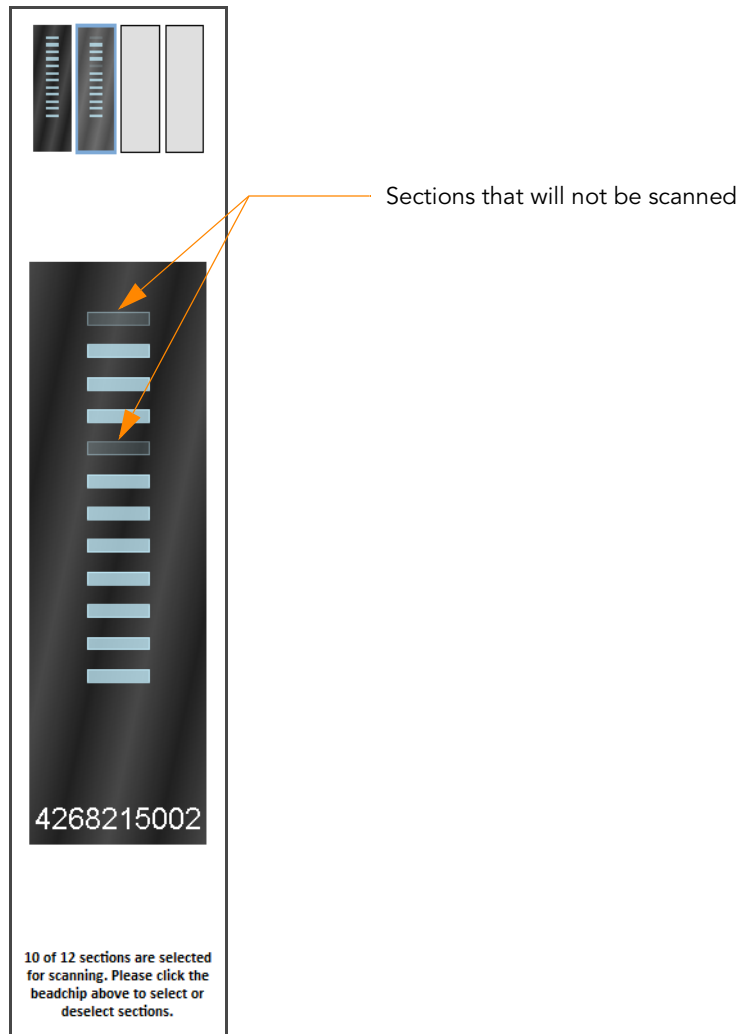

Figure 43 Deselect BeadChip Sections
10. If you do not want to scan certain sections of a BeadChip, click the barcode to display an image of the corresponding BeadChip in the Setup window. Click any BeadChip section to remove it from the scan (Figure 43). The section is longer highlighted blue.